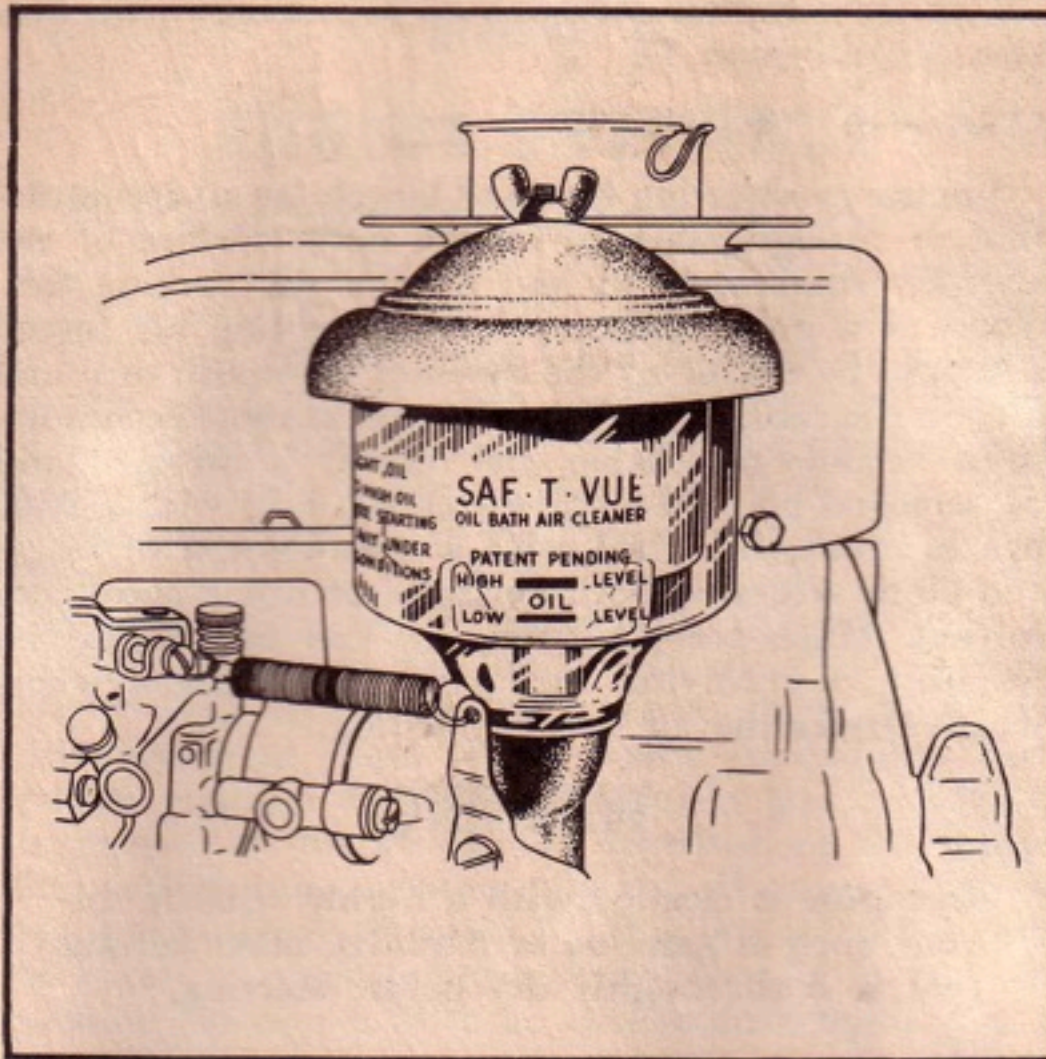

Figure B-26. Vis-O-Bath Air Filter Showing High and Low Level Markings
(3) When cleaning mesh and ribbon type air filters, wash the element thoroughly in clean gasoline and dry with compressed air. Coat the surface lightly with oil, and reinstall the filter on the engine.
(4) When cleaning late-type oil bath air filters, remove the filter from the engine and empty the dirty oil from the filter cup. Wash all parts in clean gasoline, kerosene, or other petroleum solvents. Dry the parts with compressed air. Fill the lower cup with clean engine oil up to the high-level mark embossed on the side. (See figure B-26.) Use SAE No. 50 oil in warm weather and SAE No. 30 in cold weather. Reassemble the filter unit and install it on the engine.